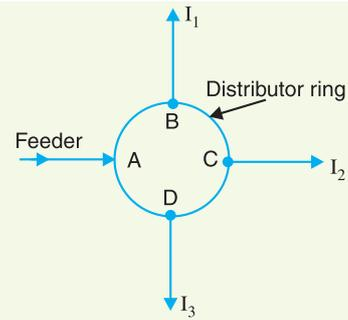

Fig. 13.4
- (iv) **Ring mains.** In this type, the distributor is in the form of a closed ring as shown in Fig.13.4. It is equivalent to a straight distributor fed at both ends with equal voltages, the two ends being brought together to form a closed ring. The distributor ring may be fed at one or more than one point.